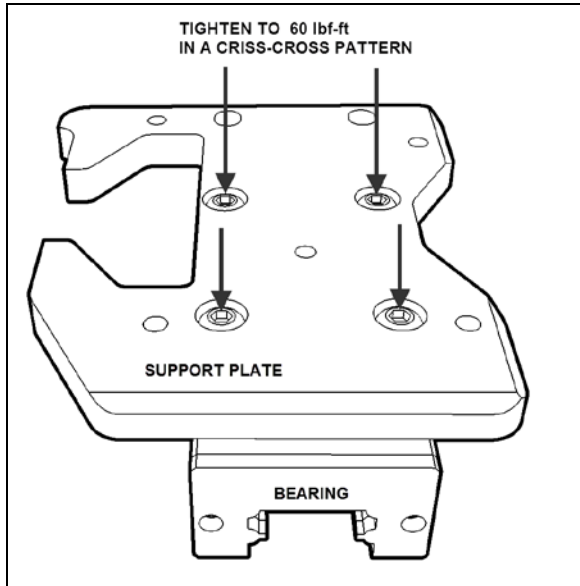

FIGURE 25: BEARING MOUNTING SCREWS
5. Remove the support and bearing assembly. Turn the assembly upside down to access the bearing mounting screws (Figure 25)